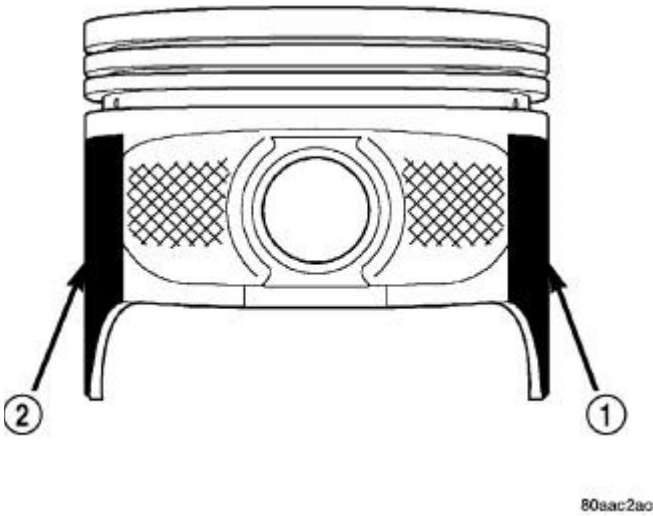

Fig. 162: Identifying Moly Coated Piston
4. The coating material is applied to the piston after the final piston machining process. Measuring the outside diameter of a coated piston will not provide accurate results. See **Fig. 162** . Therefore measuring the inside diameter of the cylinder bore with a dial Bore Gauge is **MANDATORY** . To correctly select the proper size piston, a cylinder bore gauge capable of reading in 0.003 mm (.0001 in.) increments is required.